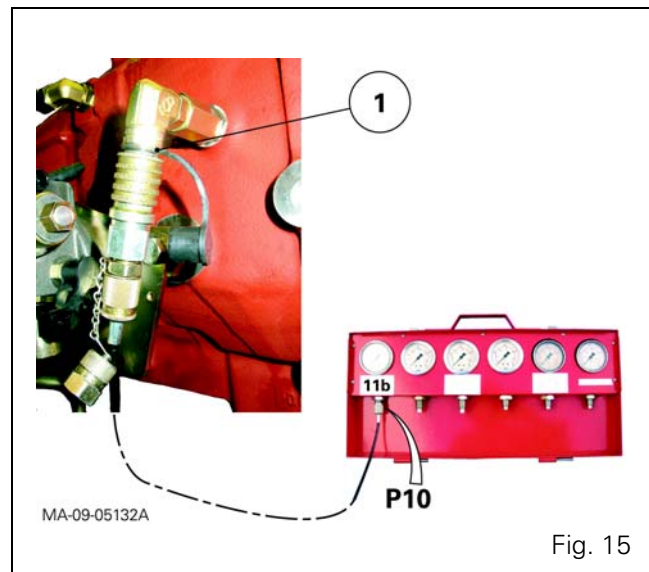

Fig. 15
- Connect a pressure gauge with a capacity of approximately 11 bar to the diagnostics connector (1) located at the front right of the gearbox (Fig. 15).